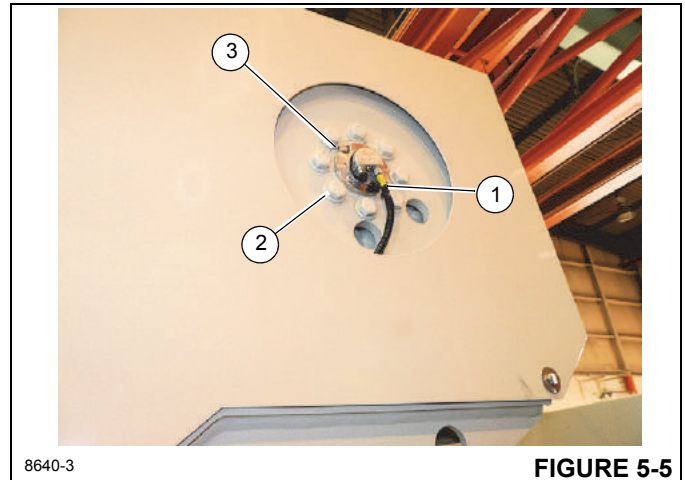

FIGURE 5-5
2. Remove the rotation indicator (DRI) cable (1, Figure 5-5) from the hoist drum.
1. Loosen the collar on the connector and unplug the DRI cable (1, Figure 5-5).
2. Remove the two retaining screws (2).
- Push the DRI into the drum so that the notch is lined up with the breather (3, Figure 5-5).
- Secure the DRI with the retaining screws (2, Figure 5-5).